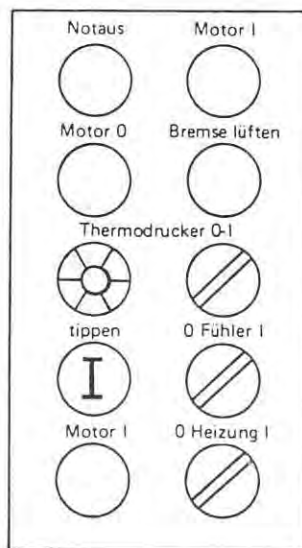
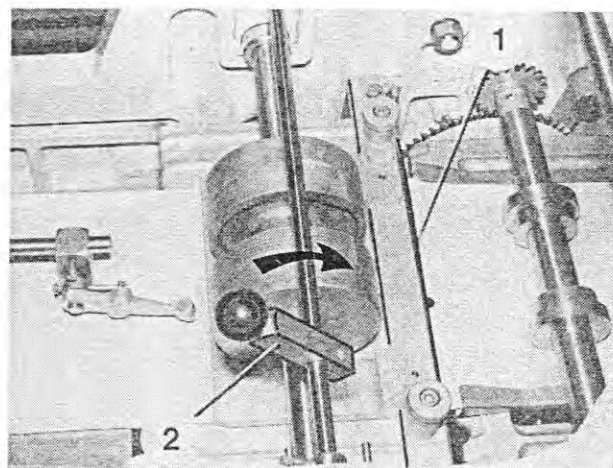

Fig. 113
Fig. 114
9. Press the „Tip“ button (Figure 113) to insert pouches into the cells of the rotary table.
11. Operate the machine by pressing the „Tip“ button (Figure 113) until the cutter knife (Figure 114/1) has reached its upper position. Then, switch off the wrapper advance by reversing the lever (Figure 114/2).